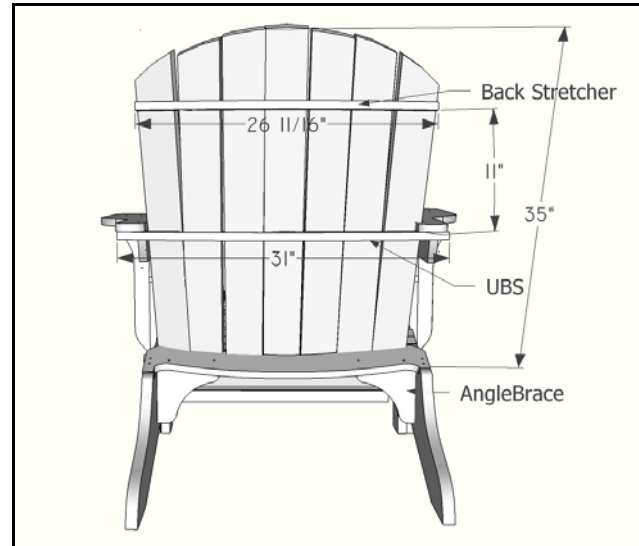

Figure 3. Rear View
F. The amended chair has a back stretcher, an additional part. Cut the radius the same as the other back supports (32 ½" and cut it a bit long, e.g., 27" and trim it at assembly time.(Figure 3)
Mark the center of the center slat 17 1/4" from the top. Draw a 17" radius from this point across the top of the seven slats, using a beam compass or a pencil tied with string. These mark the top of each slat. (See Figures 3 and 4)
C. Turn the seat over and install the two "L"-shaped corner brackets under the lower back support. (Figures 3 and 5) The grain orientation of the corner bracket matters somewhat. Long grain will make a stronger glue joint with the seat frame than end grain.
G. Install the rest of the seat back slats (Figure 3). Work from the middle slat outward, keeping the inner bottom corner of the new slat touching the corner of the existing slat. There is *no gap between slats* at the bottom and equal gaps (a bit less than 1") at the top. Since the slats fan outward toward the top by about $\frac{3}{4}$ "-1" each, each slat will intersect an inner slat corner slightly "lower down" on the lower back support in an arc. You may pre-drill the inner screw hole at the bottom of each slat but not the others, since its too hard to predict where the holes should be until the slat is in place. You can lay a flexible steel ruler on the back slats to line up the screws neatly. Use two screws at both the upper and lower back support contact points.